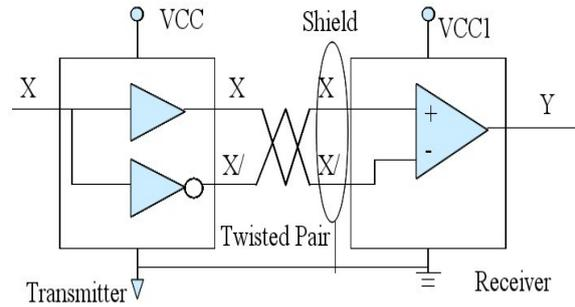

Fig. 1-6
Note 4: Transmission of differential signals (Fig. 1-6).
- ❖ Truth table is shown in the left corner of Fig. 1-6.